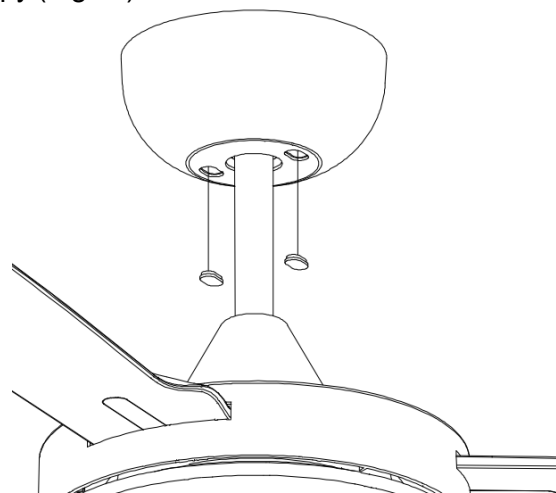

Fig. 11
- attached the decorative chips into the holes of canopy.(Fig.11)